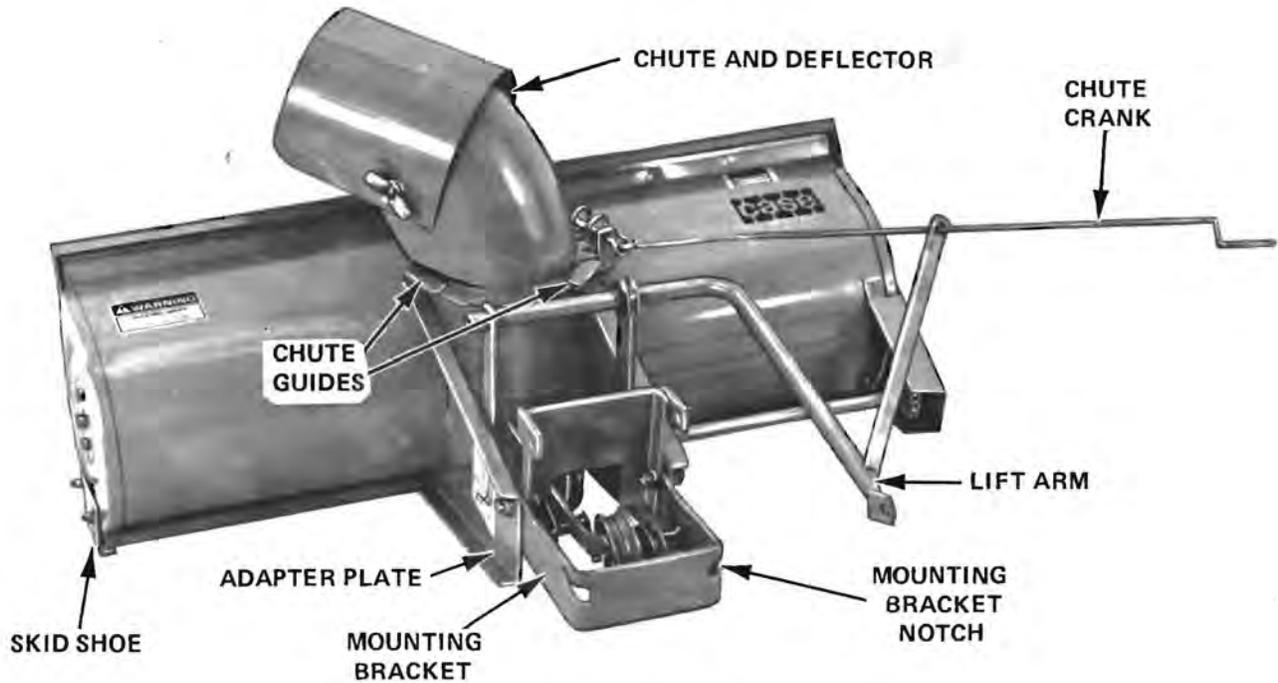

FIGURE 5
1. Position the Mounting Bracket between the Auger Adapter Plates as shown in Figure 5. Insert a spacer in each of the Adapter Plates. Bolt the Mounting Bracket to the Adapter Plates with the plain washers to the outside and lock nuts at the inside.
Remove the safety pins from the lift arm. With the plain washer located next to the cotter pin as shown in Figure 5, place the lift arm through the auger assembly lift brackets.